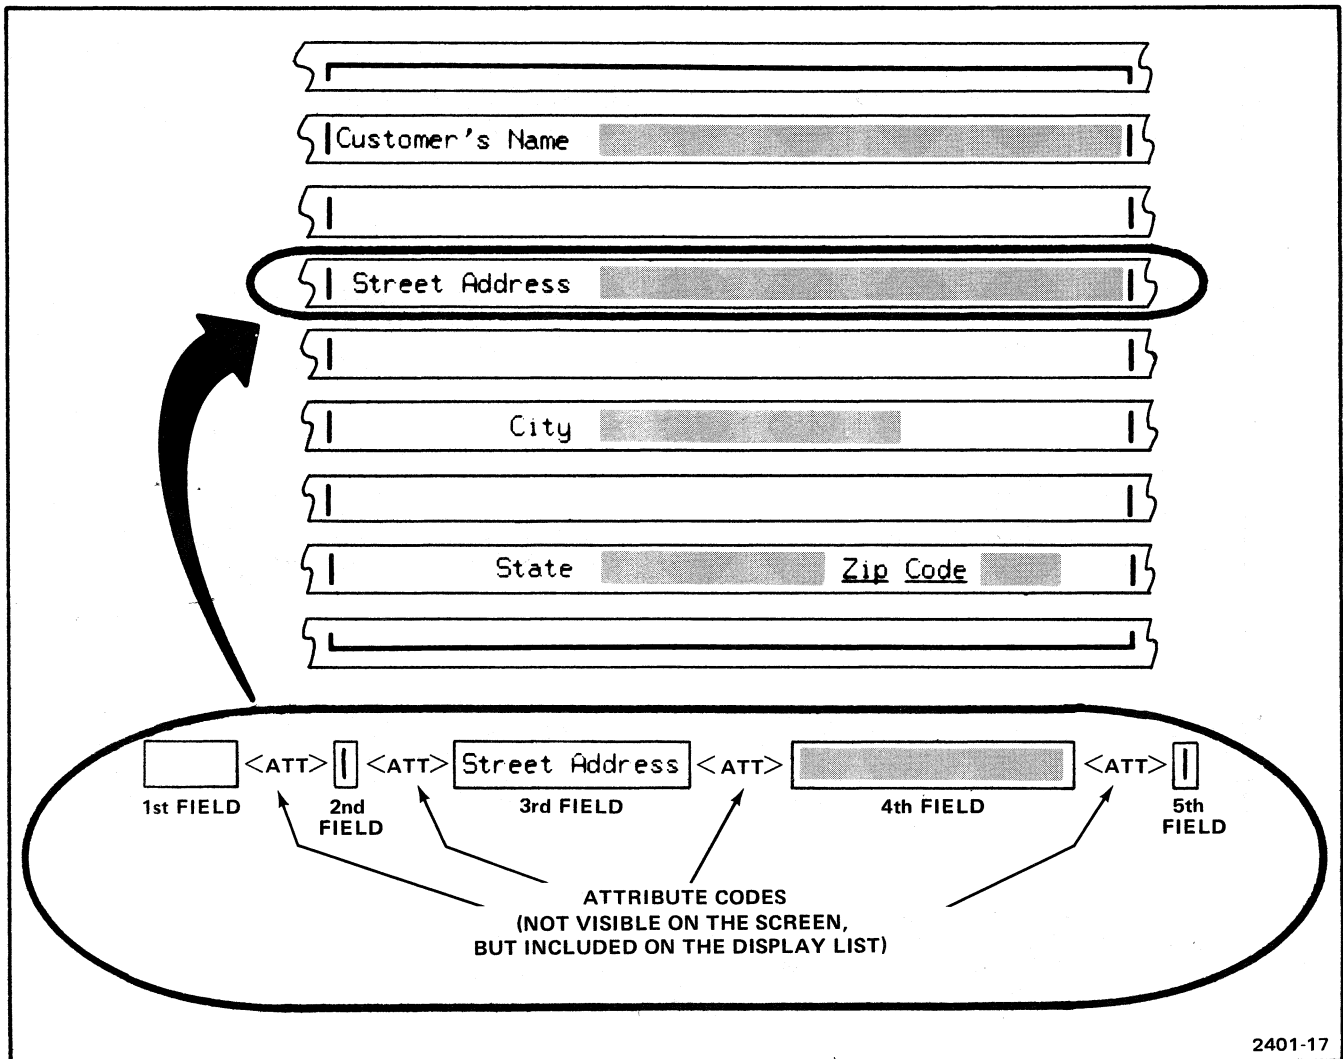

Fig. 5-2. Position of attribute codes in a display list.
- Markers, called *attribute codes*, that divide a line into fields and determine the properties (*attributes*) of those fields. (Fig. 5-2.)